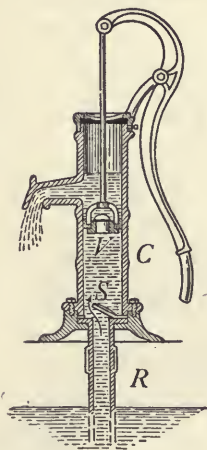

FIG. 42.—The common lift pump.
62. Water Pumps.—The Common Lift Pump. This, the simplest pump for raising water, consists of a cylinder *C* (Fig. 42) connected by a pipe *R* to a supply of water as a cistern or well. A valve opening upward is placed at the bottom of the cylinder over the entrance to the pipe. In the cylinder is a tightly fitting piston connected by a rod to a lever for ease in action. The piston contains a valve opening upward. In operating this pump water is usually first poured into the cylinder to “prime” it. This helps to close the valves and prevents air leaking past them. When the piston is lowered the lower valve closes, the air in the cylinder being compressed pushes the upper valve open and passes above the piston. On raising the piston the upper valve closes. This forms a partial vacuum in the cylinder.